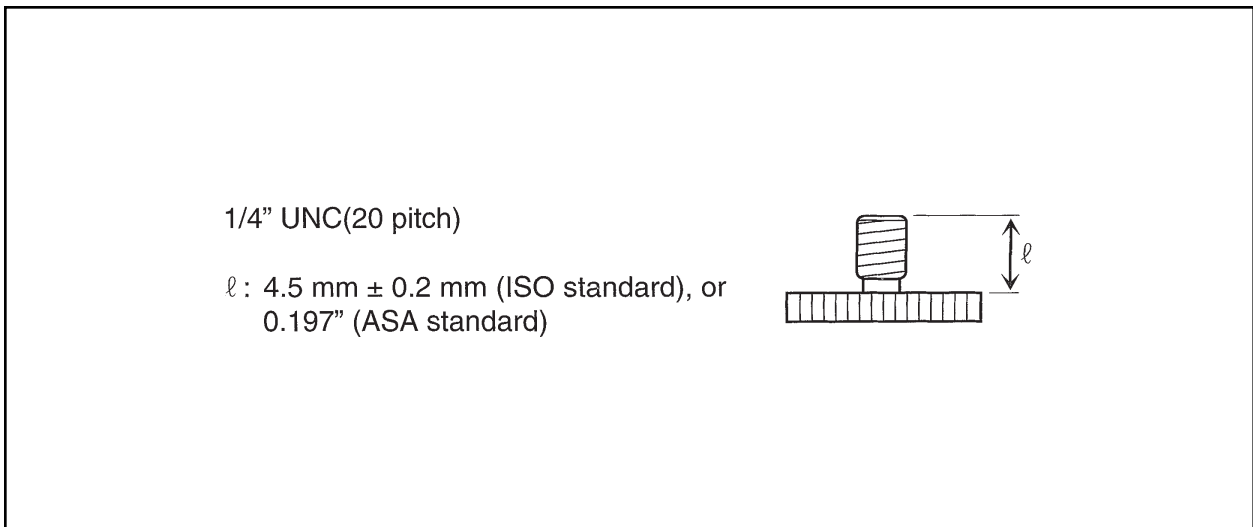

Figure 7. Camera Mounting Screw
7. Attach the camera to a mounting bracket with a mounting screw of the type shown in Figure 7.